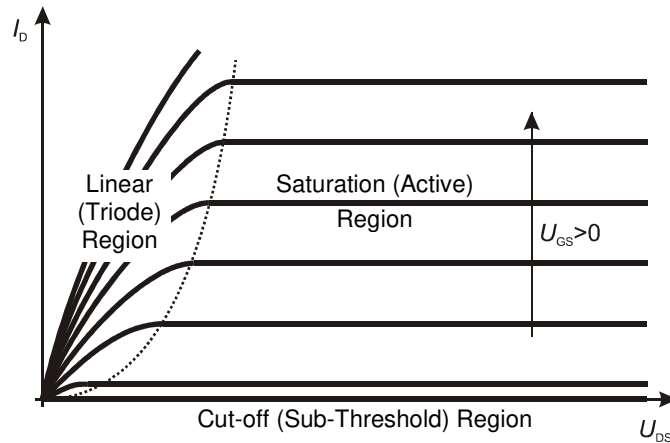
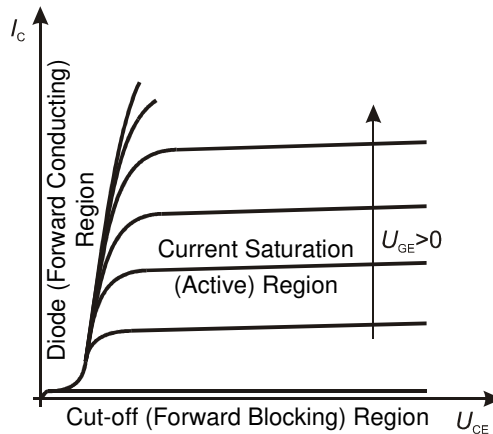

Fig. 6. Static forward output characteristic of an N-channel power MOSFET with operating regions labelled
Fig. 7. Static forward output characteristic of an N-channel IGBT with operating regions labelled
- a drain polarity with respect to the common terminal selected in step 5.2/2 (in the case of a MOSFET, the source) appropriate for achieving the forward bias of an N-channel MOSFET (see Fig. 6 if in doubt): *Polarity [A4]* = appropriate setting + (positive) or – (negative),
- the voltage axis scale U_{DS} (X) to 1 V/div: *Horizontal Volts/Div [C7]* = Collector 1 V.
- (e) while pressing *Single [B8]*, check whether the highest branch crosses the 4 A current level in the linear, i.e. triode, region (according to the terminology applicable to the MOSFET; cf. Fig. 6 if in doubt) but does not exceed 5 A; increase or decrease the collector supply amplitude appropriately (*Variable Collector Supply [A3]* knob) if needed;
- a collector polarity with respect to the common terminal selected in step 5.2/2 appropriate for achieving the forward bias of an N-channel IGBT (see Fig. 7 if in doubt): *Polarity [A4] = appropriate setting + (positive) or - (negative)*,
- the voltage axis scale U_{DS} (X) to 0.5 V/div: *Horizontal Volts/Div [C7] = Collector .5 V*
- (e) while pressing *Single [B8]*, check whether the highest branch crosses the 4 A current level in the forward conducting, i.e. diode, region (according to the terminology applicable to the IGBT; cf. Fig. 7 if in doubt) but does not exceed 5 A; increase or decrease the collector supply amplitude appropriately (*Variable Collector Supply [A3]* knob) if needed;
Operating regions in a static output characteristics of a BJT have been shown in Fig. 5; they are also presented and described in Ref. A. An appropriate plot for a MOSFET have been shown in Fig. 6; a static output characteristic of this device is also presented in Manual 0, Ref. H, and described in Manual 3P, Ref. A. Similarly, a plot for an IGBT can be found in Fig. 7; a static output characteristic of this device is also presented in Manual 0, Ref. H, and described in Manual 4P, Ref. A.